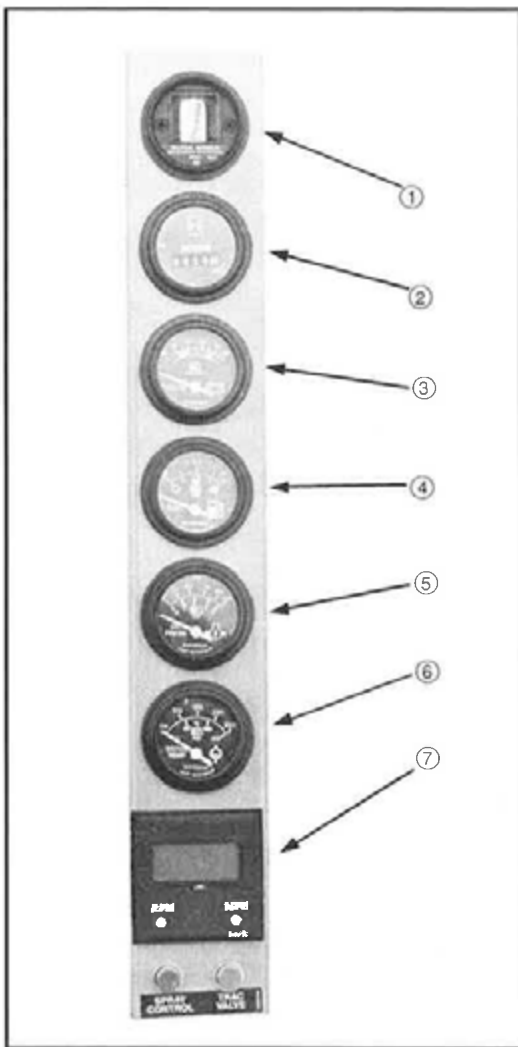

FIG 5.85
Filter Minder® - (fig. 5.85 item 1) The Filter Minder® is an engine air filter restriction monitoring device. For more information, see page 91.
Hour Meter - (fig. 5.85, item 2) The hour meter progressively records elapsed time of sprayer operation. It is useful for determining service intervals.
Volt Meter - (fig. 5.85, item 3) The volt meter measures voltage from the alternator on the diesel engine. A "RED" indicator light will alert the operator if the system is operating either too low or too high.
Fuel Gauge - (fig. 5.85, item 4) The fuel gauge measures the amount of fuel in the fuel tank. A "YELLOW" indicator light alerts operator of low level operation.
Engine Oil Pressure - (fig. 5.85, item 5) The oil pressure gauge monitors pressure of the engine lubricating system. A "RED" indicator light alerts the operator of low level operation.
Water Temperature - (fig. 5.85, item 6) The water temperature gauge monitors the engine cooling system. A "RED" indicator light alerts the operator of unsafe operating temperatures.
Speedometer/Tachometer - (fig. 5.85, item 7) Unit will display either engine RPM or speed of travel depending on operator's selection. See next page for more information on the speedometer/tachometer.